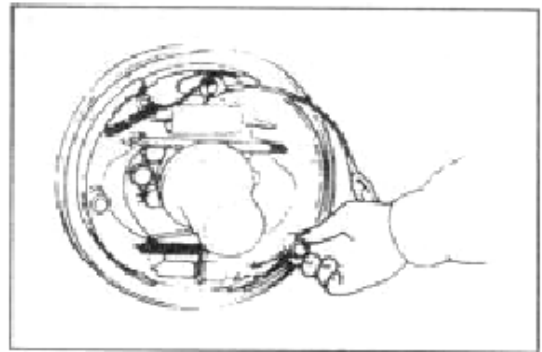

Fig 6-20
(5) Mount the brake cable assembly onto the bottom plate using E-shaped retainer ring.
(6) Mount the brake shoe onto the bottom plate using fixing spring, but the bottom part of secondary brake shoe shall be mounted with fixing spring after the washer, cup and the adjusting lever have been properly installed, to ensure that the pressure seat is fitted in the holes of brake shoe and adjusting lever (Fig 6-20).